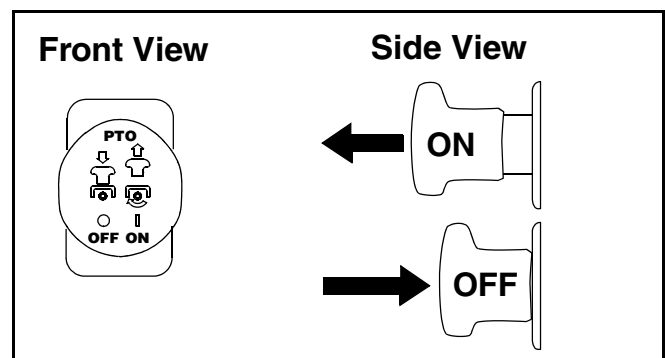

Figure 9
- Pull the PTO control switch knob outward into the engaged (ON) position. See Figure 9.